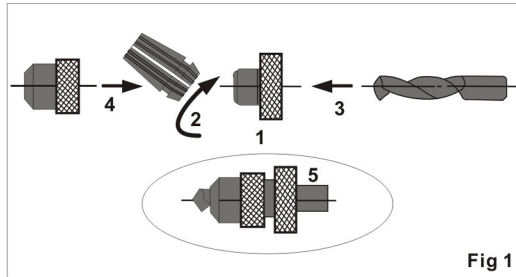

Fig 1
- Assemble the fixture (Fig 1)